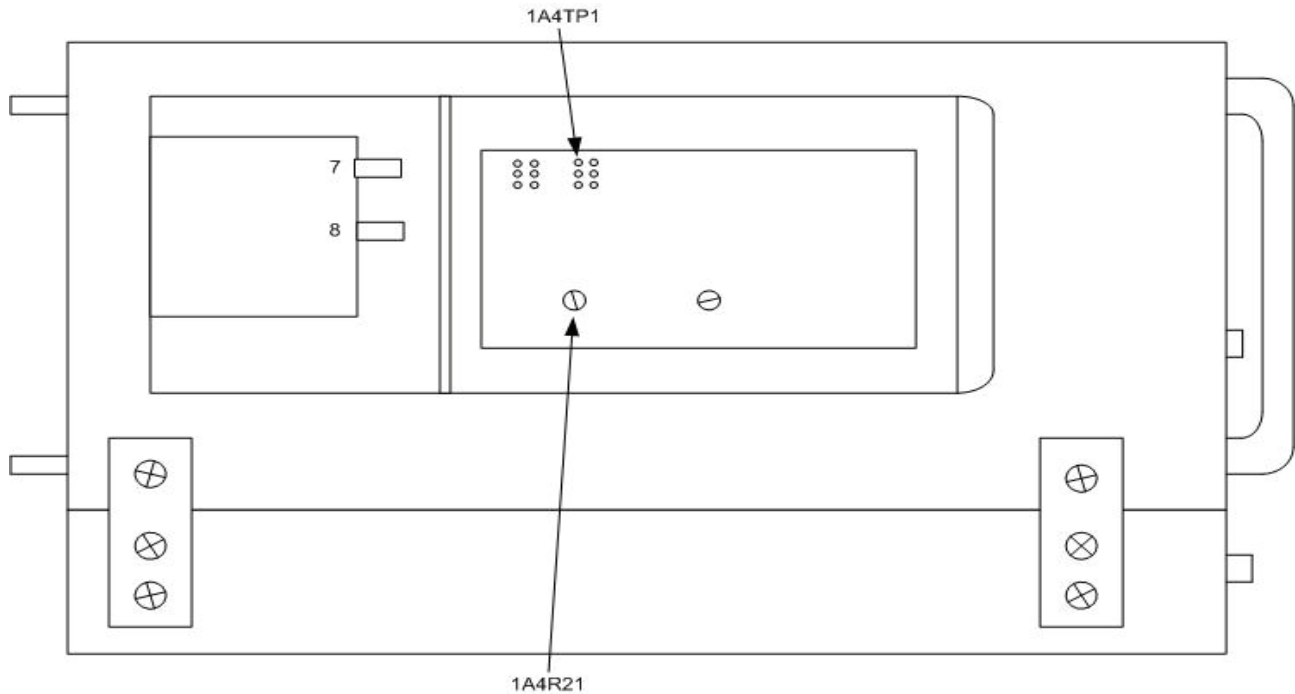

Figure 3. Signal generator - left view.
(1) Connect multimeter between pin 4 and pin 2 (common) of connector 1A4TPI (fig. 3). If multimeter does not indicate between 2.07 and 2.53 V dc, perform **b** (1) below.
(2) Adjust 1A4R21 (fig. 3) until multimeter indicates -1250 V dc (R).